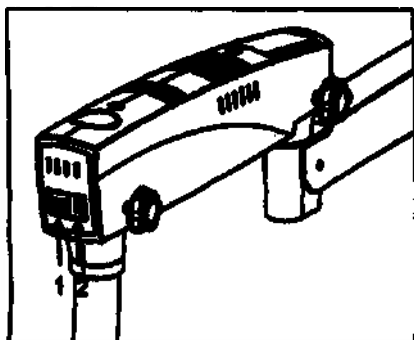

Fig. 14 PRIMA OPH, DNT, ENT
7.1 Connect feeding cable to the slot of alternating current (1) see fig. 14 and 14.1 situated on the rotary arm.